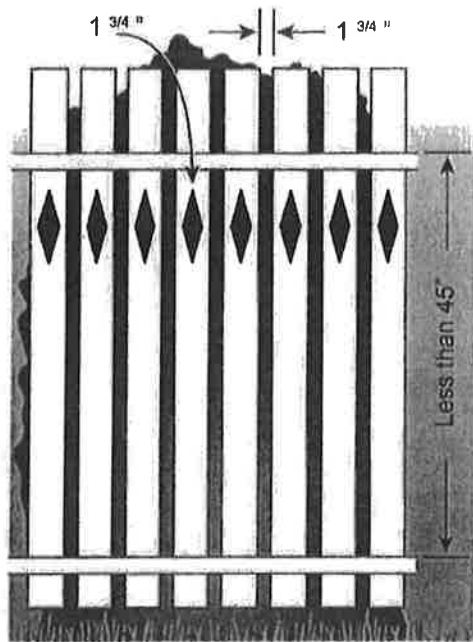

Figure 3
6. Where the barrier is composed of horizontal and vertical members and the distance between the bottom and top horizontal members is less than 45 inches, the horizontal members should be located on the swimming pool side of the fence (figure 3).